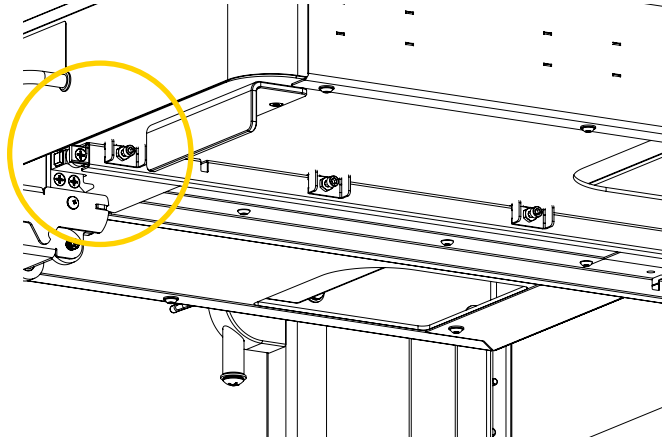

Figure 14: Tightening the adjustment screws (1 of 3)
- C. Pull the tray to retract it and align the bearing housing of the keyboard tray in front of the first adjustment screw located on the outside of the right-hand side rail (Figure 14), then tighten the screw until you begin to feel resistance using a $\frac{5}{32}$ in. hex key and torque the nut $\frac{1}{2}$ to 1 full turn using a $\frac{3}{8}$ in. key.